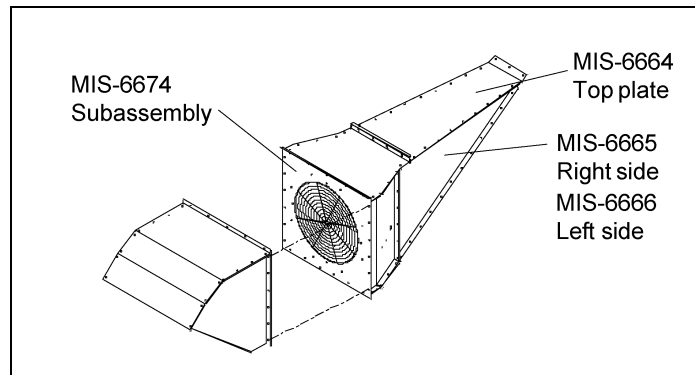

Figure 5H The 24" Roof Fan Exhauster and Rainhood.
11. Bolt the fan housing to the adaptor (*See Figure 5H*).